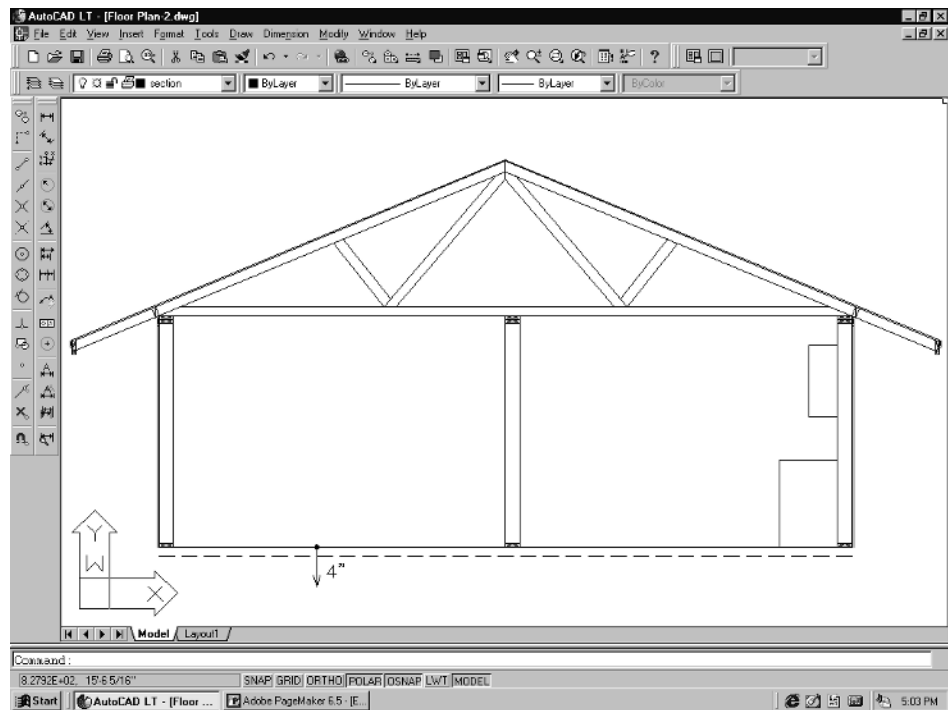

Figure 3-70
1. **Zoom|Out** so that you can see the entire cross section as in Figure 3-70. Offset the floor line 4" down.